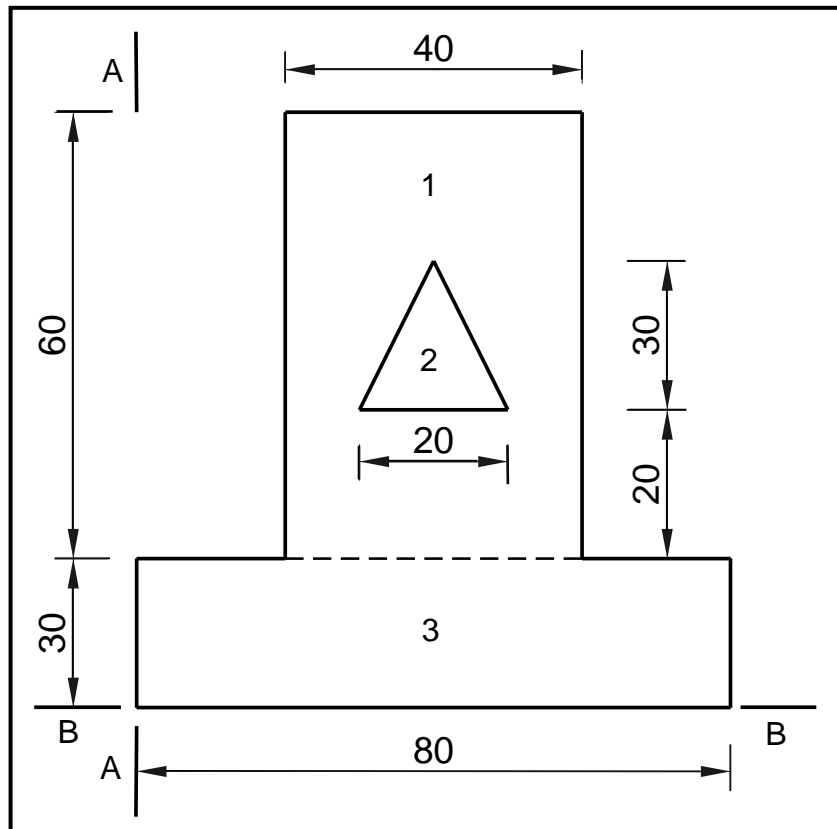

FIGURE 5.1
- 5.1 FIGURE 5.1 below shows a shaped lamina with an isosceles triangular hole. All dimensions are in millimetres. Study the lamina and answer the questions that follow.
| 5.1.8 | Deduce, from FIGURE 5.1, the position of the centroid of the whole lamina from A–A. | (1) |